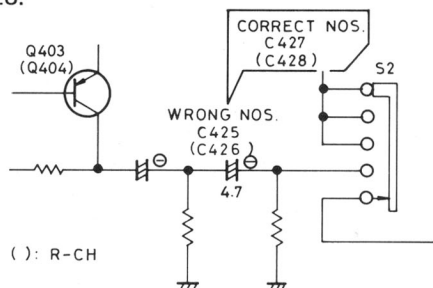

Fig. 1 Phono Amp Circuit (Portion) for RC-1000
- Page 11, Schematic Diagram for RC-1000, Phono Section, symbol Nos. of the capacitors shown in Fig. 1 are corrected as follows: C425 to C427; C426 to C428.